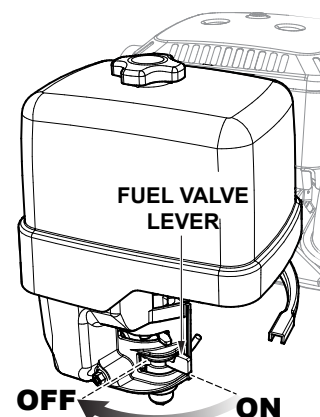

Figure 31. Fuel Valve Lever (OFF)
3. Place the fuel valve lever (Figure 31) in the **OFF** position.